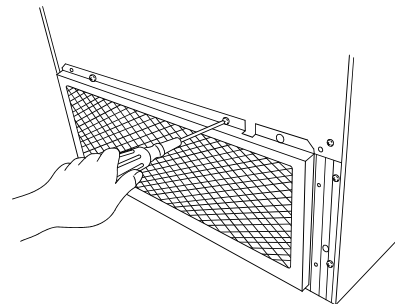

Fig. 7
5. Remove the wire grille on the back bottom of the freezer. See Fig.7